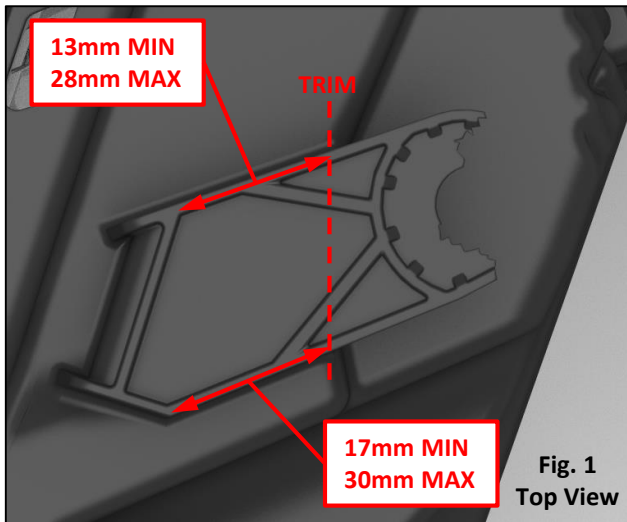
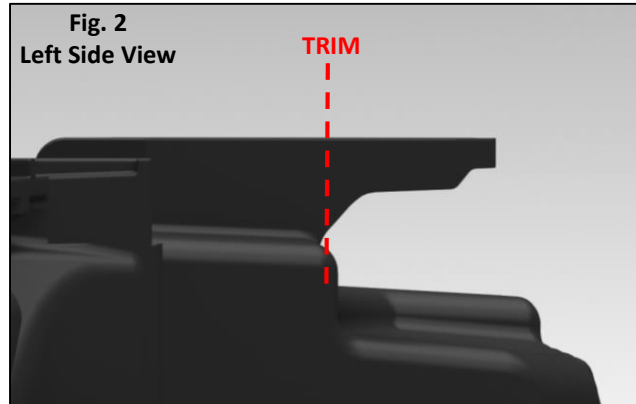

Fig. 1
Fig. 2
**1. Trim:** Using a cut-off wheel, trim the damaged tab to the **MAX** dimension whenever possible, **Fig. 1**. Make note of the trimming plane to which the **MAX** dimension refers, **Fig. 2**. The **MIN** indicates the least amount of material allowed for proper screw engagement. Next, Sand rough edges to remove excess material from trimming and to ensure a proper fit.